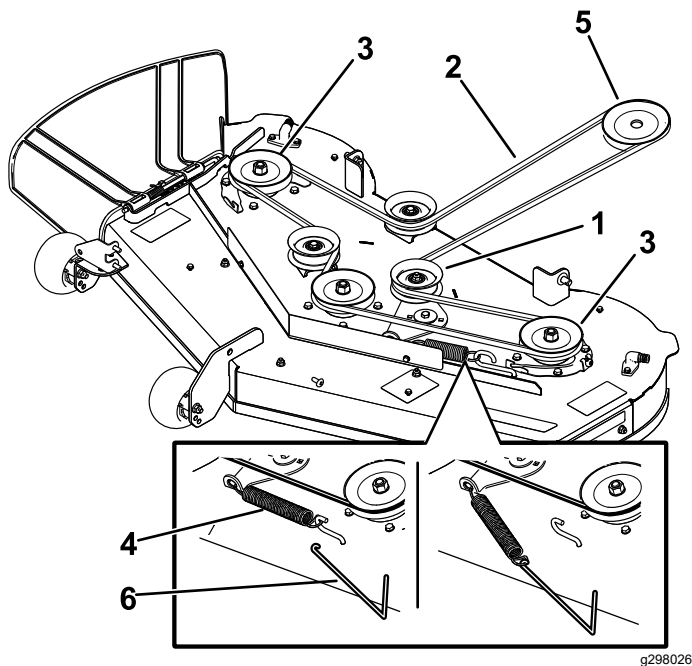

Figure 50
5. Using a spring-removal tool (Toro Part No. 92-5771), remove the idler spring from the deck hook to remove tension on the idler pulley, and roll the belt off the pulleys (Figure 50).
6. Route the new belt around the engine pulley and mower pulleys (Figure 50).
7. Using a spring-removal tool (Toro Part No. 92-5771), install the idler spring over the deck hook and place tension on the idler pulley and the mower belt (Figure 50).